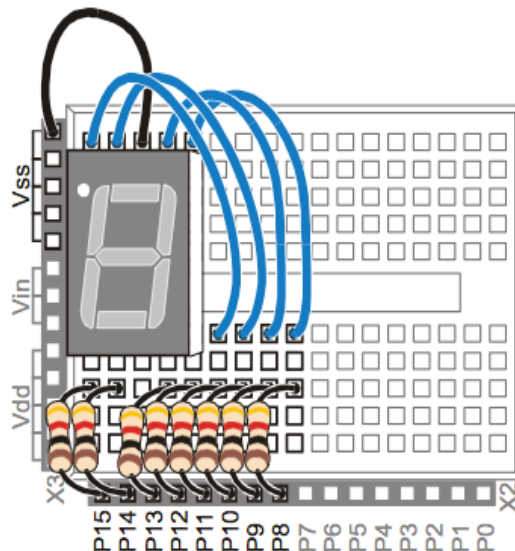

Figure 3.14: LED Circuit to display digits 0 to 9
- Build the circuit shown in figure 3.14.